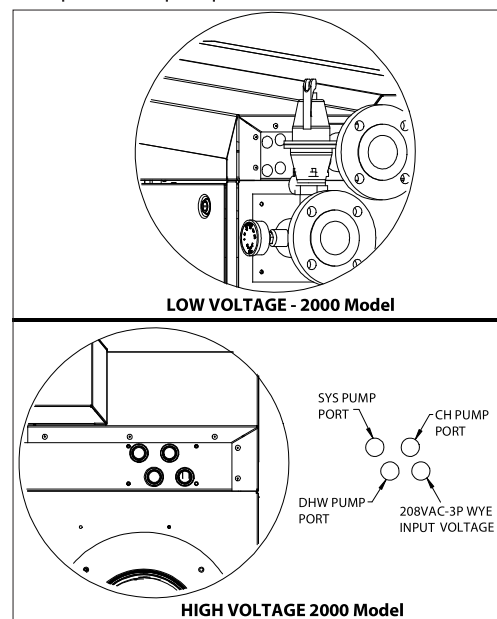

Figure 37 - Knockout Locations - 2000 Model Only
1. All low voltage cables should enter the electrical junction box through the provided knock out holes as shown in Figure 37.